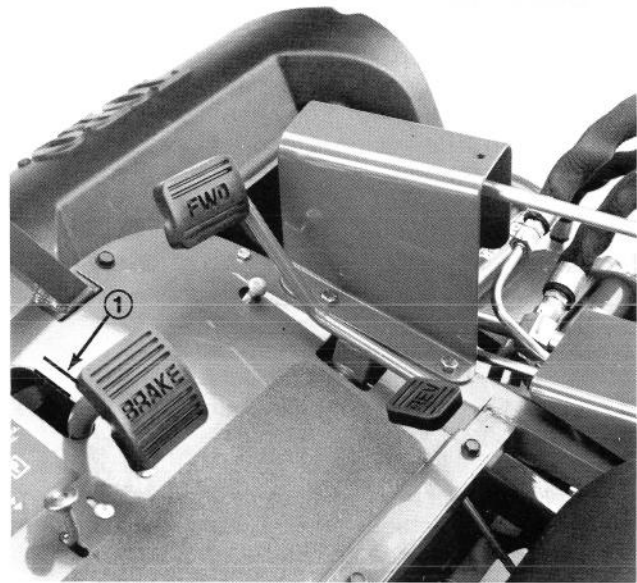

Figure 42
5. Check the amount of free travel of the brake pedal when adjustment is completed. There should be 1/2 in. to 1 in. (12.7 to 25 mm) travel before the brake shoes make contact with the brake drums. Re-adjust, if necessary, to achieve this setting (Fig. 42).